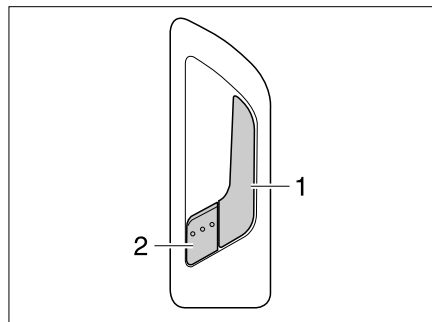

Fig. 47 Door lock of conversion door, inside
- Pull on the handle (Fig. 47,1). The door lock is unlatched. The locking lever (Fig. 47,2) jumps out automatically.
- Press the locking lever (Fig. 47,2).